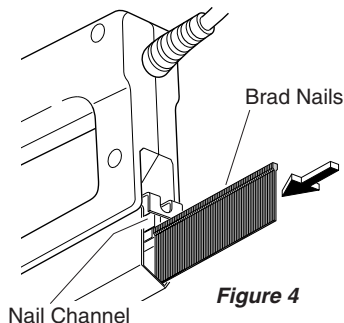

Figure 4
4. Insert nails into nail channel through rear of nail chamber (see Figure 4). Make sure nail points are towards bottom of tool.